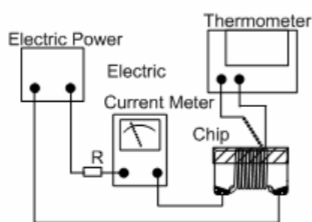

Fig. 6.3.4-1
- Definition of Rated Current (Irms): Irms is direct electric current as chip surface temperature rose just **25 $^{\circ}\text{C}$** against chip initial surface temperature (T_a) (see **Fig. 6.3.4-2**).